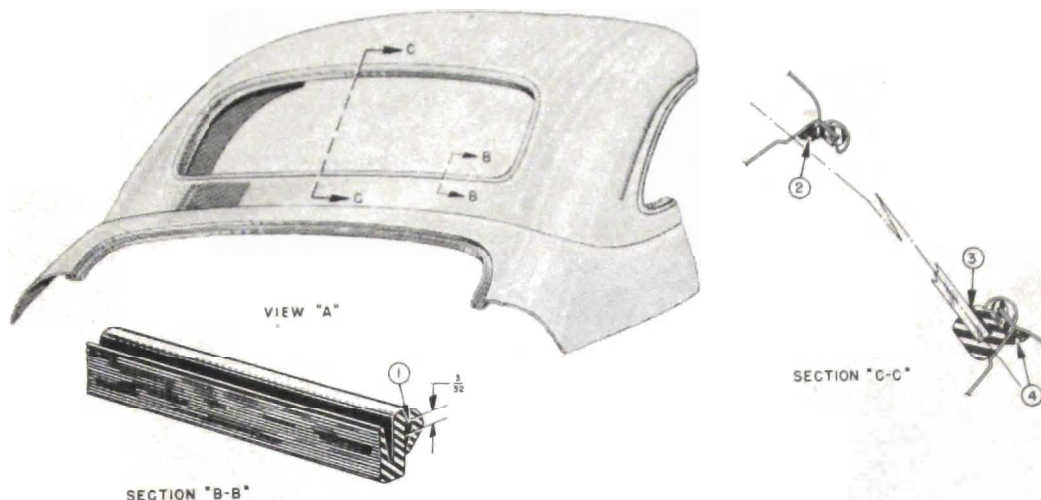

Fig. 1-34. Back Window Sealing Diagram
• **Back Window Sealing** (See Fig. 1-34)
- See Fig. 1-34. In this installation a pinch-weld